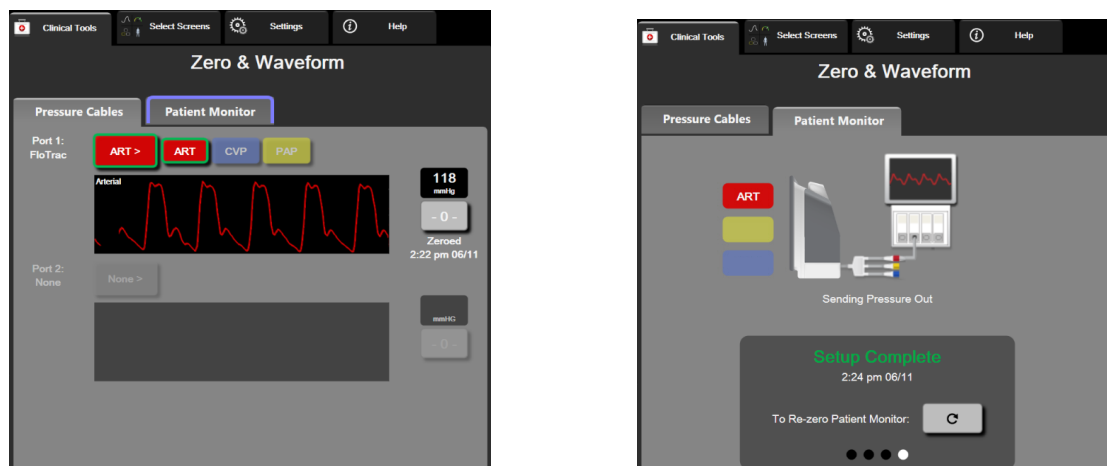

Figure 10-2 Zero & Waveform screens – Zero sensor and Pressure-Out
- 5 Touch the **Transmit Waveform** icon  to begin pressure signal output to the patient monitor. A “**Setup Complete**” message will be displayed when the live waveform is being transmitted to the connected patient monitor. See right screen shown in figure 10-2 on page 187.